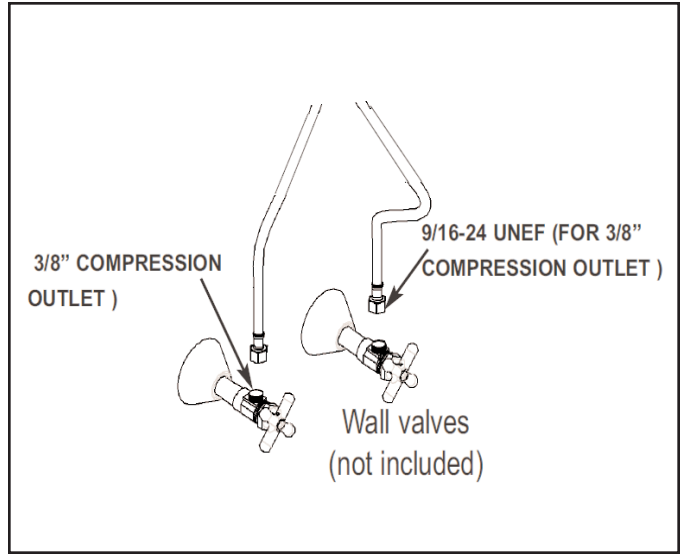

Figure 2
2. Attach hot/cold spout supply hoses to appropriate supply lines and valves in the wall. See Fig. 2